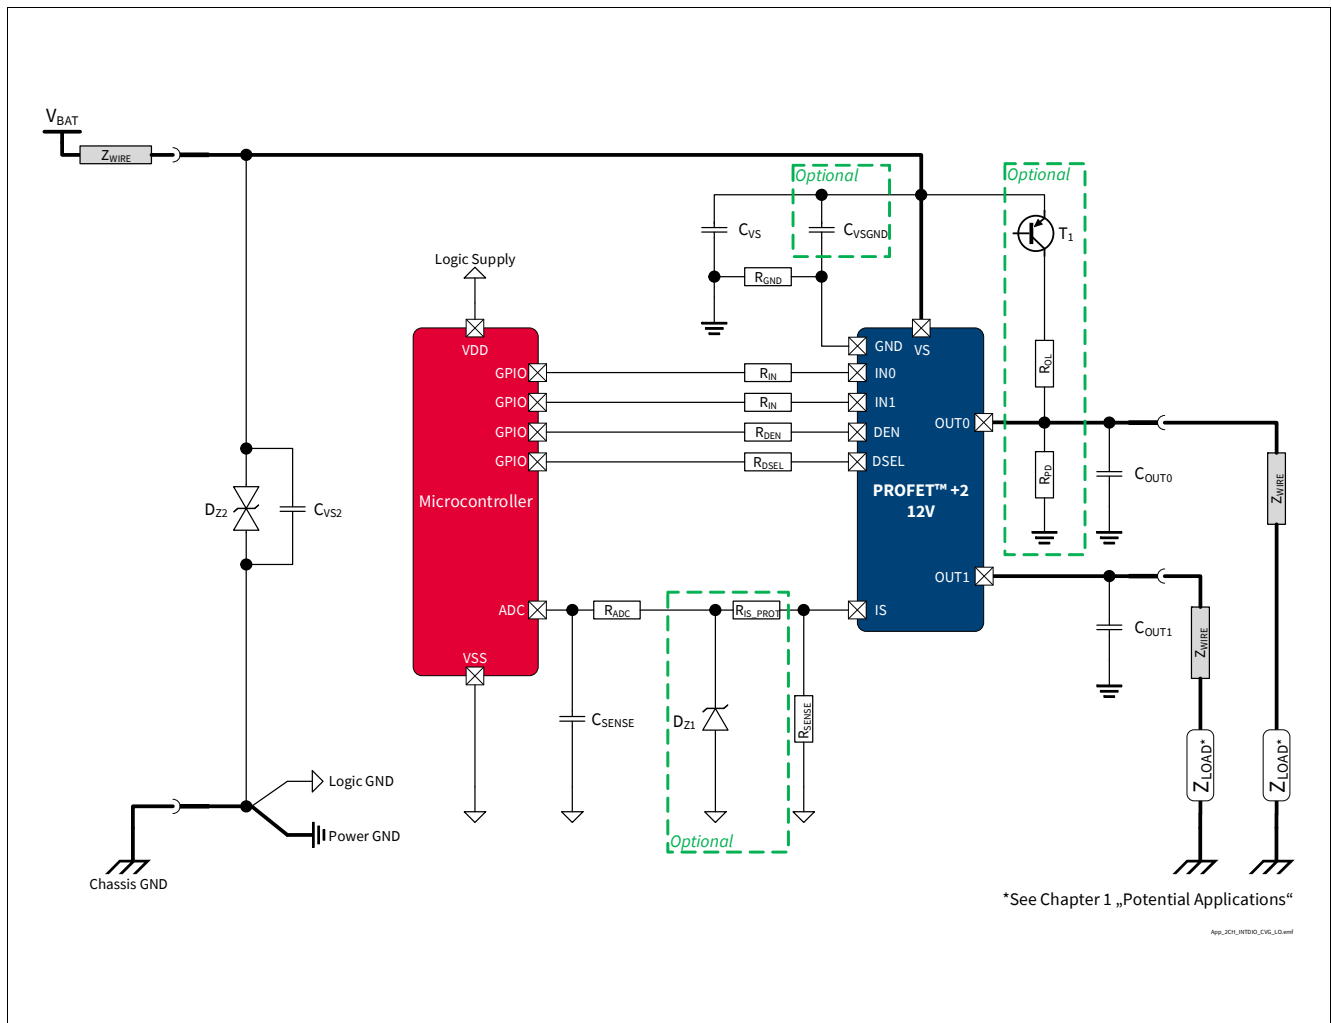

Figure 43 BTS7030-2EPA Application Diagram
1.05, 2019-10-15	<p>P_8.7.5.1, P_8.7.5.7, P_8.7.5.8 updated (added in Note or Test Condition: link to Figure 25)</p> <p>P_7.5.5.4, P_7.5.5.5 updated (added in Note or Test Condition: DEN = “low”; link to Figure 19)</p> <p>P_7.5.5.12 updated (added in Note or Test Condition: see Figure 21; deleted unnecessary space in Symbol: $dV_{OUT} / dt \rightarrow dV_{OUT} / dt$)</p> <p>P_8.7.5.6 updated (added in Note or Test Condition: see Figure 26)</p> <p>P_9.7.5.1 updated (added in Note or Test Condition: See Figure 34)</p> <p>P_9.7.5.6 updated (Min./Typ./Max.: -40%/2700/+40% → -27.5%/2675/+27.5%)</p> <p>P_9.7.5.8 updated (Min./Typ./Max.: -35%/2700/+35% → -23.5%/2675/+23.5%)</p> <p>P_9.7.5.9 updated (Min./Typ./Max.: -31%/2700/+31% → -22.0%/2675/+22.0%)</p> <p>P_9.7.5.12 updated (Min./Typ./Max.: -28%/2700/+28% → -21.5%/2675/+21.5%)</p> <p>P_9.7.5.15 updated (Min./Typ./Max.: -16%/2700/+16% → -10.0%/2675/+10.0%)</p> <p>P_9.7.5.18 updated (Min./Typ./Max.: -7%/2700/+7% → -5.5%/2715/+5.5%)</p> <p>P_9.7.5.20 updated (Min./Typ./Max.: -5%/2700/+5% → -3.8%/2715/+3.8%)</p> <p>P_7.5.5.11 updated (added in Note or Test Condition: see Figure 19)</p> <p>Figure 1, Figure 43 updated</p> <p>Chapter 1 updated (or LED equivalent → or equivalent electronic loads (e.g. LED modules))</p> <p>P_4.3.0.7 added</p> <p>Table 24 updated</p> <p>Chapter 5.1 updated (added: see Chapter 10 for the complete application setup overview)</p>